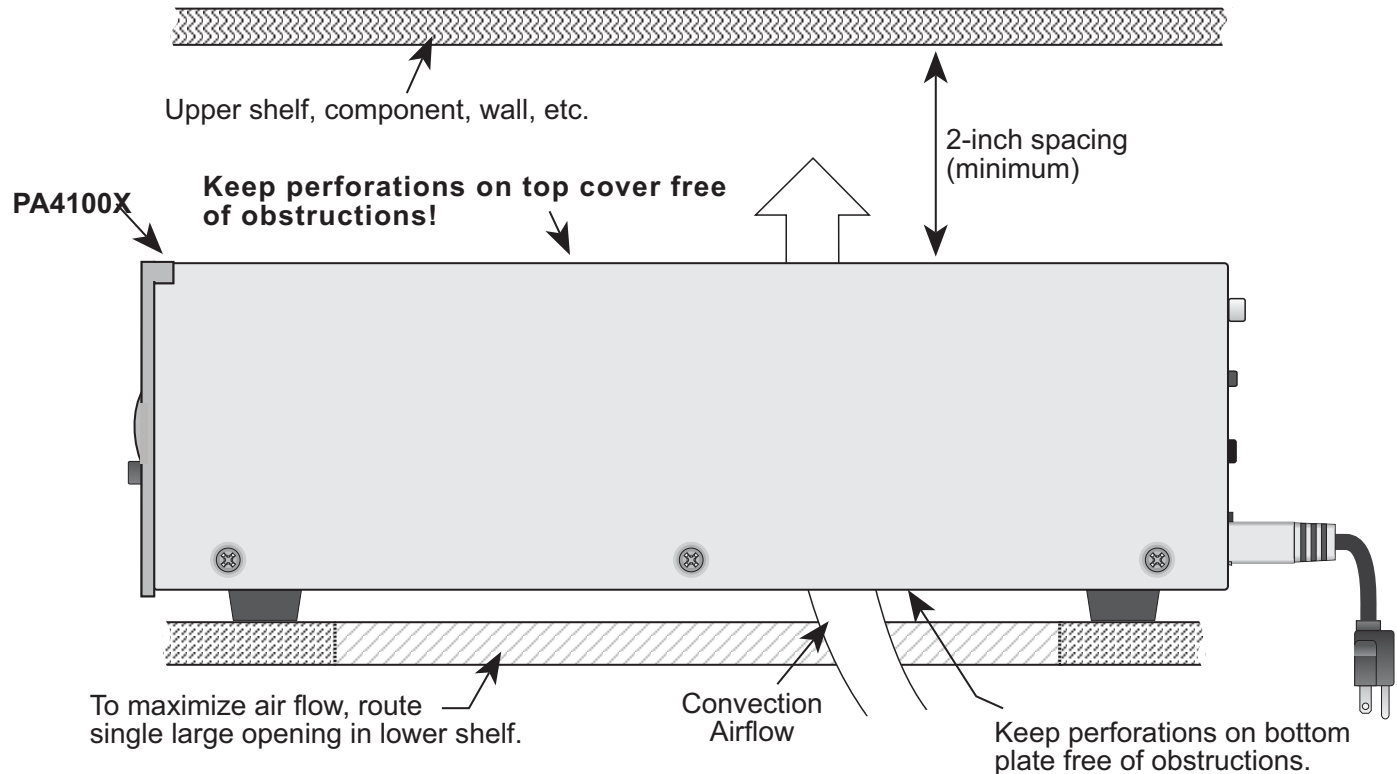

Figure 4 – HORIZONTAL MOUNTING
2. If mounted in an equipment cabinet or other confining location, allow at least 2 inches of space above the top cover (see Fig. 4). Be sure there are large openings in the shelf below the unit and in the cabinet to allow the entry of cool air and the escape of warm air.